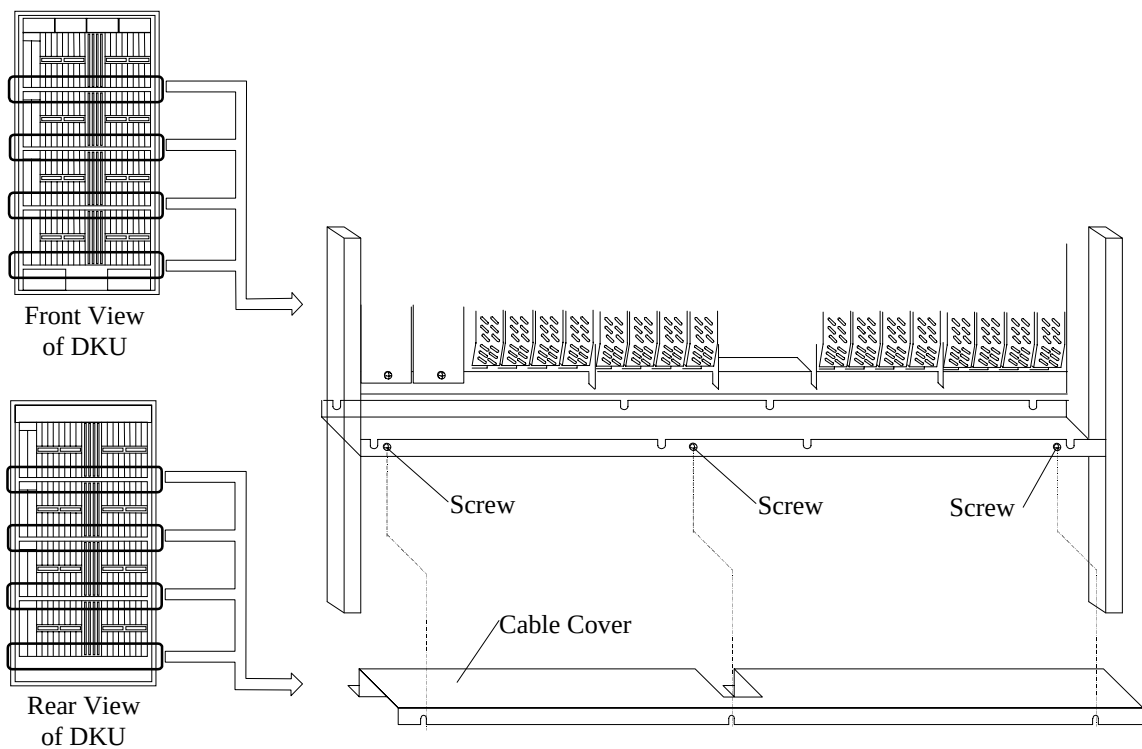

Fig. 3.3.2-4 Removal of Cable Covers
7. Pass the DEV interface cables and the AC power cables for the DKC through the DKU-R1 frame. Refer to Fig. 3.3.2-5. Be extremely careful not to pinch the inter-frame cable when coupling the frames to each other.